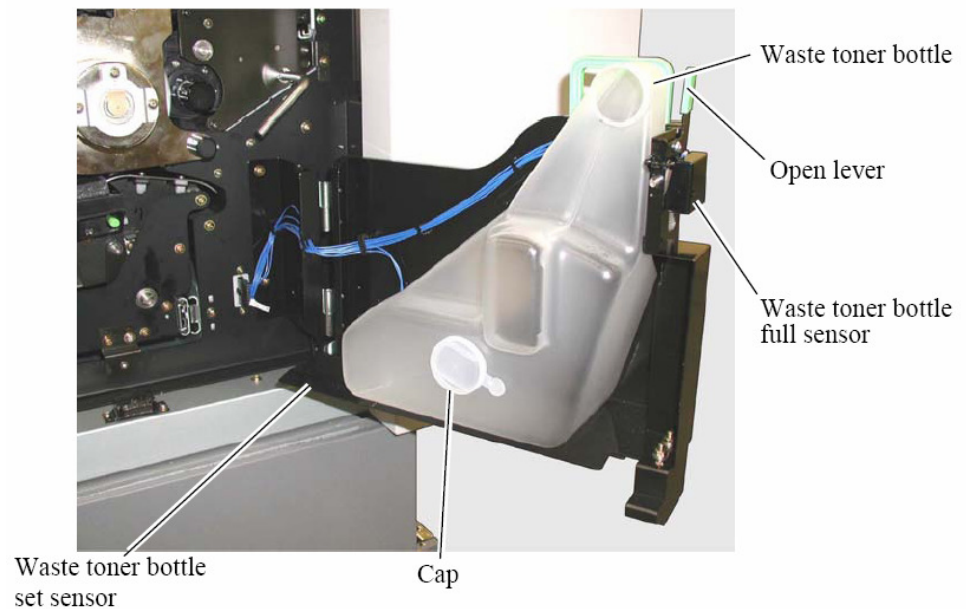

Fig. 6.3.b Waste Toner Bottle unit opened
3. Close the filled waste toner bottle using the cap located at the center of the waste toner bottle (compare figure 6.3.b and figure 6.3.c).